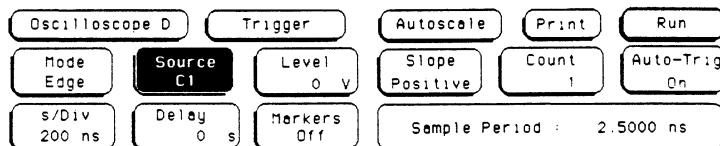

Figure 3-21. Trigger Screen And External Source
- b. Touch **Source** and change trigger source to **External** as shown in figure 3-21.